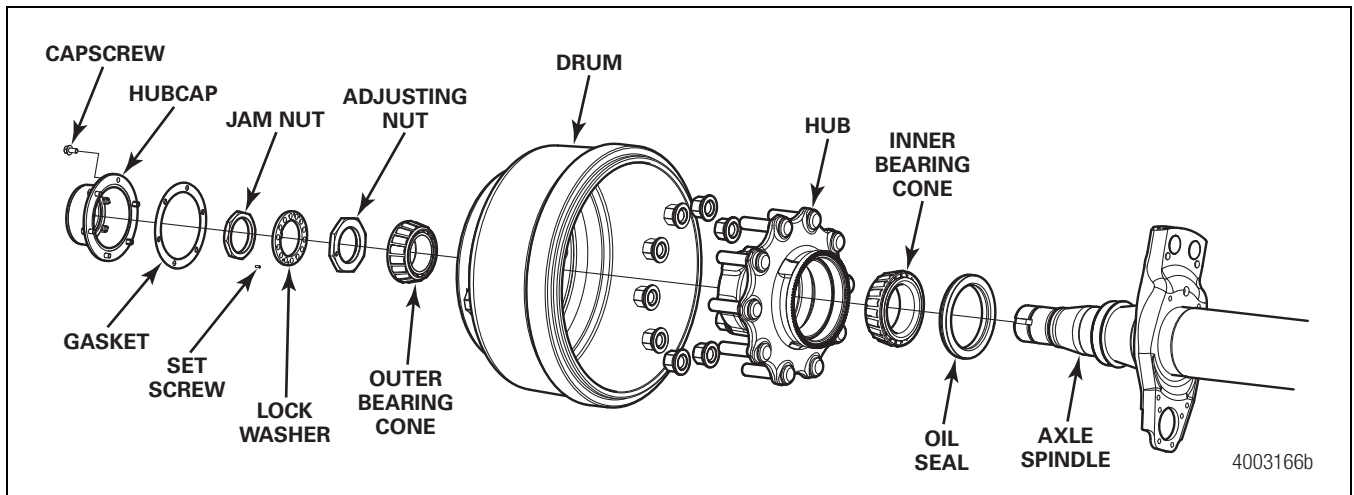

Figure 3.7
10. Remove the set screw from the lock washer. Then remove the jam nut, lock washer and adjusting nut. Figure 3.7.
12. Remove the inner bearing cone and seal from either the spindle or hub. Discard the seal. Figure 3.7.